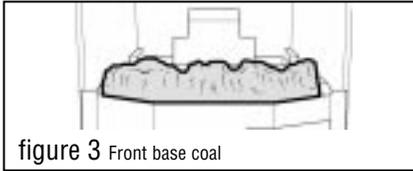

figure 3 Front base coal
- 1 Place the front base coal in the burner compartment so that it rests on the edges at the sides and front. Pull the coal forward so that it is immediately behind the front rim of the burner compartment. See figure 3.